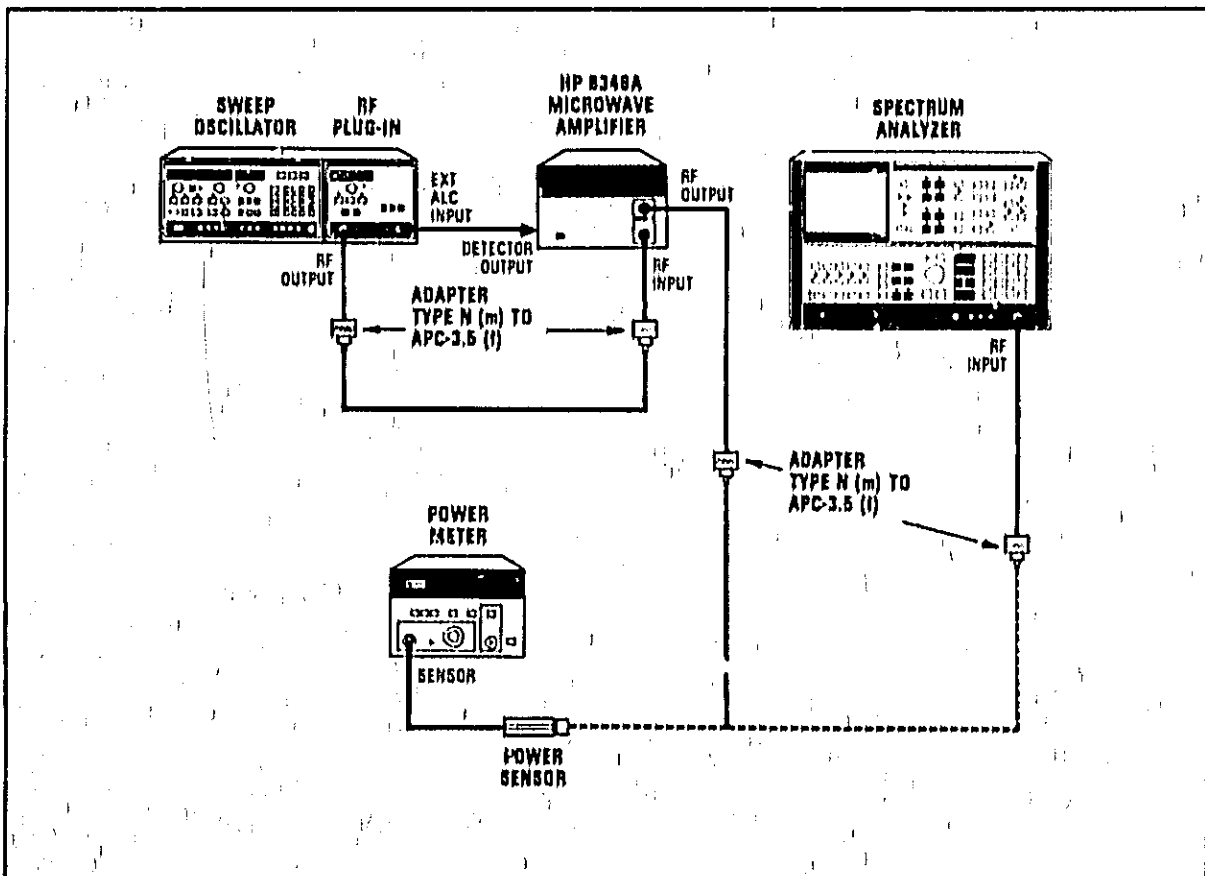

Figure 4-5. Spectral Purity Test Setup
1. Switch the equipment off and then connect it as shown in Figure 4-5 with the HP 8349A's RF OUTPUT connected to the spectrum analyzer.